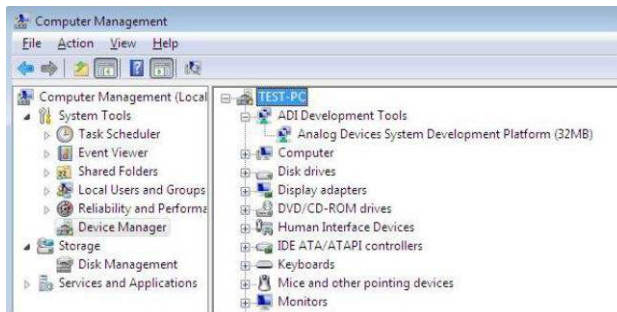

Figure 14. Device Manager: Checking That the Board Is Connected to the PC Correctly
- iii. The **Computer Management** box appears. Click **Device Manager** from the list of **System Tools** (see Figure 14).